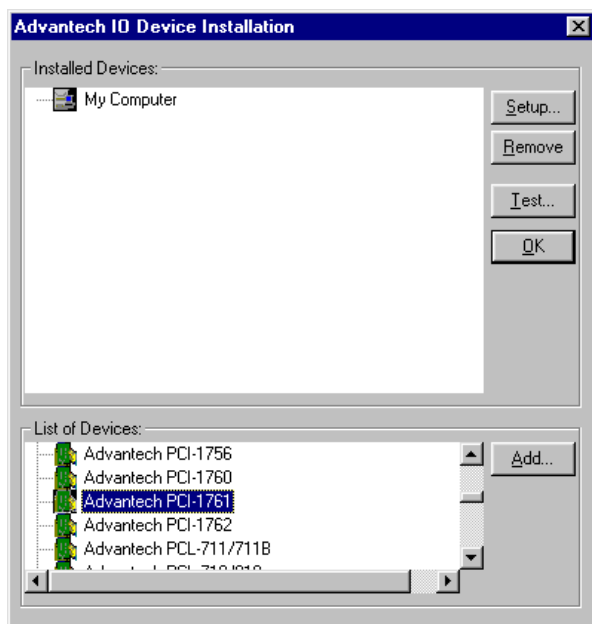

Fig. 2-7 The *I/O Device Installation* dialog box
Step 2: On the *Device Installation* program window, select the *Setup* menu item on the menu bar, and click the *Device* command (Fig. 2-6) to bring up the *I/O Device Installation* dialog box (Fig. 2-7). You can then view the device(s) already installed on your system (if any) on the *Installed Devices* list box. Since you haven't installed any device yet, you might see a blank list such as the one in (Fig. 2-6).